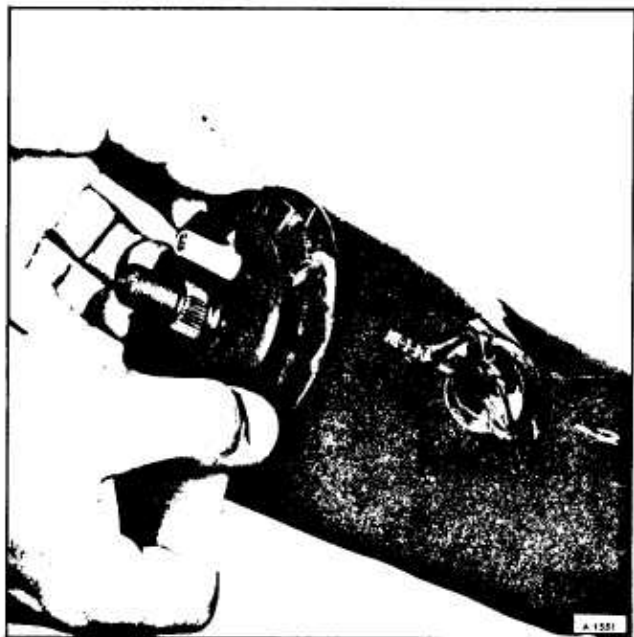

Figure 69—Removing Lock Plate
3. Depress lock plate downward as far as possible using special tool J-23131 or J-23653 and the hand wheel nut. Pry the retaining ring out of the shaft groove. (figure 68). Remove the retaining ring and lock plate. (figure 69).